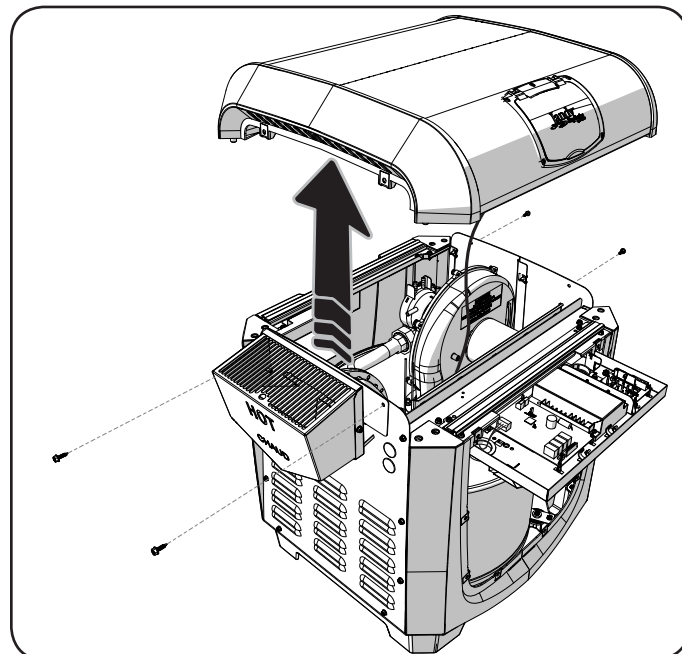

Figure 5. Remove Top Panel
- Remove the 4 screws holding the top cover in place. See Figure 5.
- Remove the top cover being mindful not to damage or strain the user interface wiring. See Figure 5.